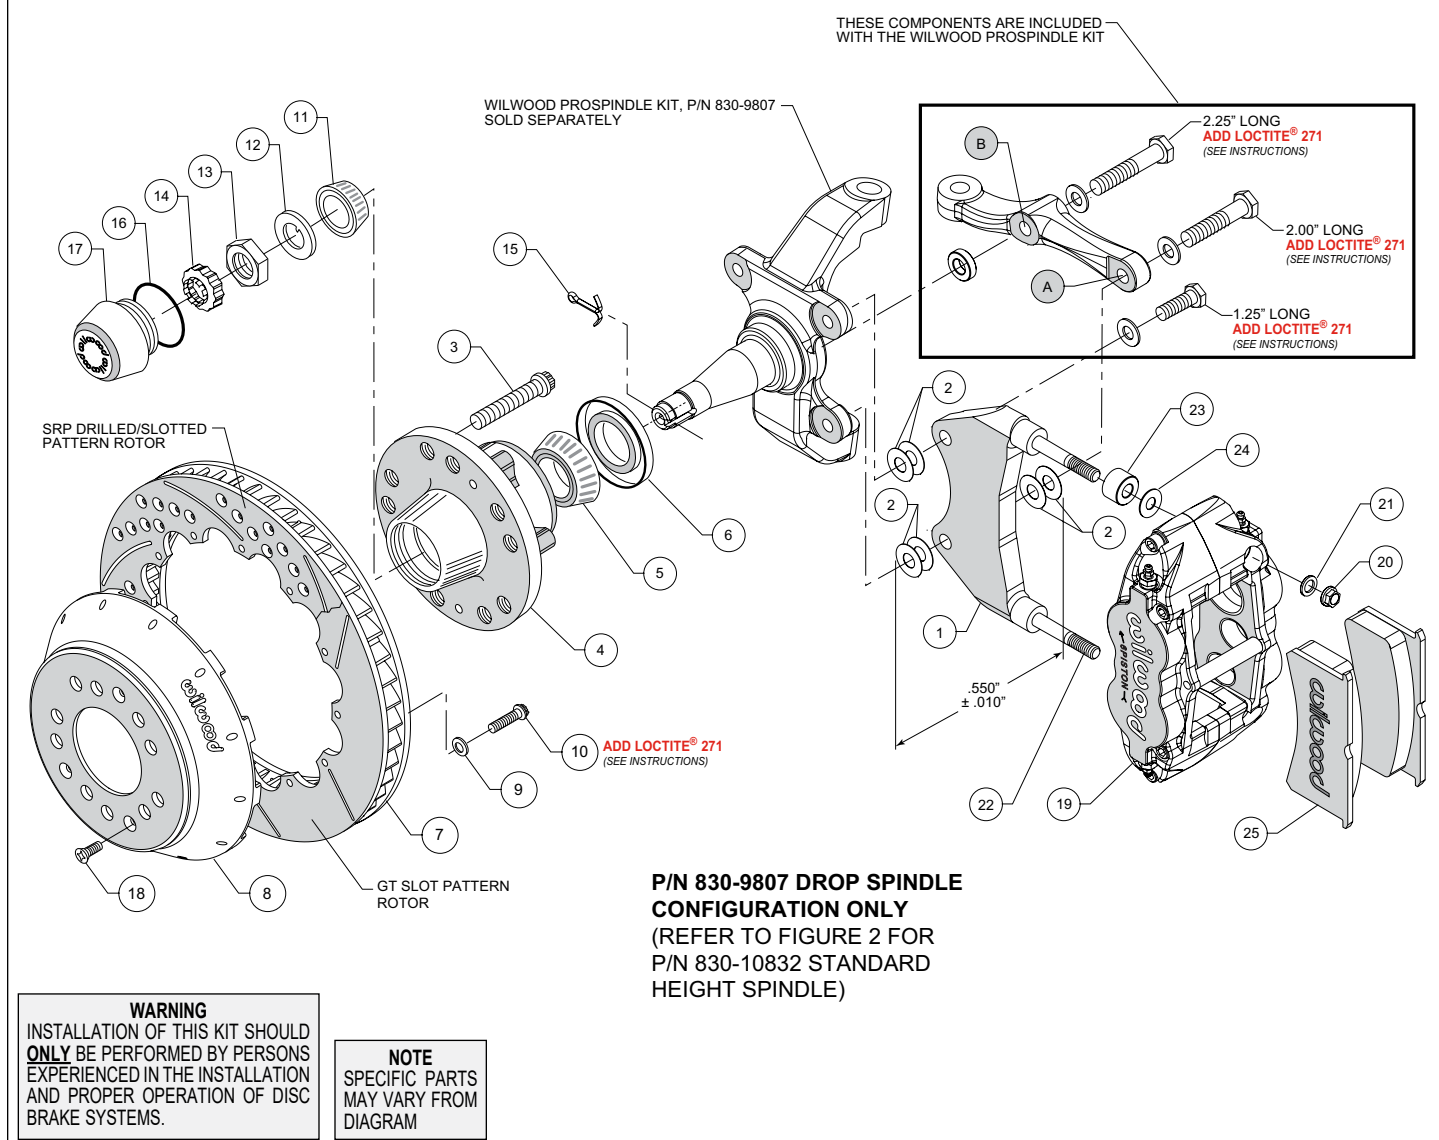
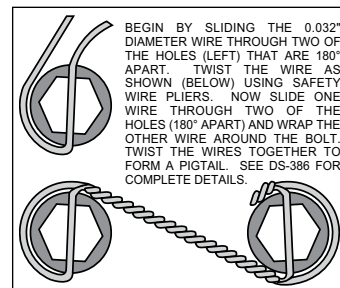

Figure 1. Installation Configuration For Drop Spindle, P/N 830-9807
Figure 4. Safety Wire Diagram
Assembly Instructions (numbers in parenthesis refer to the parts list and Figures 1 or 2 on the preceding pages):
- NOTE:** Each Wilwood ProSpindle kit includes bolts, washers, and a spacer to mount the steering arm and caliper bracket. The various bolts are identified by length in the following instructions and in Figures 1 and 2.
- Orient the bracket as shown in Figure 1 and Photo 1. Install at top spindle hole using 1.25" long bolt and .06" thick washer (from ProSpindle kit), and two .016" thick shims (2) between the bracket and spindle, Figure 1.
- Orient the steering arm, and identify the hole marked 'A', as shown in Figure 1. Install at bottom spindle hole using 2.00" long bolt and .06" thick washer (from ProSpindle kit), two .016" thick shims (2) between the bracket and steering arm, and another two .016" thick shims (2) between the bracket and spindle, Figure 1. The bracket is located between the steering arm and spindle. **NOTE:** *The bracket and shim washers must add up to a total thickness of .550" \pm .010", Figure 1.*
- Finish attaching the steering arm through the hole marked 'B', as shown in Figure 1. Install using 2.25" long bolt, .06" thick washer, and .25" thick spacer (all from ProSpindle kit), Figure 1.
- Pack the large inner bearing cone (5) with high temperature disc brake bearing grease (available from your local auto parts store) and install into the backside of the hub (4), Photo 4.
- Install the grease seal (6) by pressing into the backside of the hub (4), Photo 4.
- Orient the rotor (7) and the hat (8) as shown in Figures 1 or 2, and Photo 5. Attach rotor to hat using bolts (10) and washers (9). Apply red *Loctite*® 271 to the bolt threads and torque to 155 **in-lb** using a criss-cross pattern. For an added measure of security, the bolts may be safety wired using standard 0.032 inch diameter stainless steel safety wire as shown in Figure 4. Refer to Wilwood's data sheet DS-386 (available at www.wilwood.com/Pdf/DataSheets/ds386.pdf) for complete safety wire installation instructions.
- Pack the small outer bearing cone (11) with high temperature disc brake bearing grease and install into hub (4). Slide the hub assembly onto the spindle. Secure using spindle washer (12) and spindle nut (13), Photo 6. Bearing adjustment: Tighten the nut while turning the hub. When there is a slight bind on the bearings, they are seated correctly. Back the nut off about 1/6 to 1/4 of a turn, or sufficiently to allow .001" to .007" end play. **WARNING:** Failure to back off adjusting nut could cause bearing to run hot and be damaged, which could cause the wheel to lock or come off. Install spindle nut retainer (14) and cotter pin (15).
- Screw dust cap (17) into hub (4), Photo 7. Friction created by the o-ring (16) on the dust cap keeps it from unscrewing.
- Slide the hat/rotor assembly (7/8) onto the hub (4) taking care to align the small countersunk holes in the hat with the small threaded holes in the hub. **NOTE:** The hat must fit flush against the hub face or excessive rotor run out may result. Install three flat head screws (18) through the small holes in the hat (8), Photo 7, and torque to 85 **in-lb**.
- NOTE:** This kit contains distinct right and left hand calipers that must be mounted in a specific direction, as described below. Initially place one .035" thick shim (24), and spacer (23) on each stud (22) as shown in Figure 1 or 2, and Photo 8. Mount the caliper (19) onto the bracket (1) using lock nuts (20) and washers (21), Figure 1 or 2. Ensure that the caliper is mounted so that the largest pistons are at the rotor exit end of the caliper, in relation to the direction of rotor rotation. Temporarily tighten the lock nuts and view the rotor through the top opening of the caliper. The rotor should be centered in the caliper, Photo 9. If not, proceed as follows:
- For the lower bracket mount bolt, if a shim was added between the bracket and spindle, then a shim must be removed between the steering arm and bracket, such that the total thickness of bracket and shims remain equal to $.550 \pm .010$ ", Figure 1.